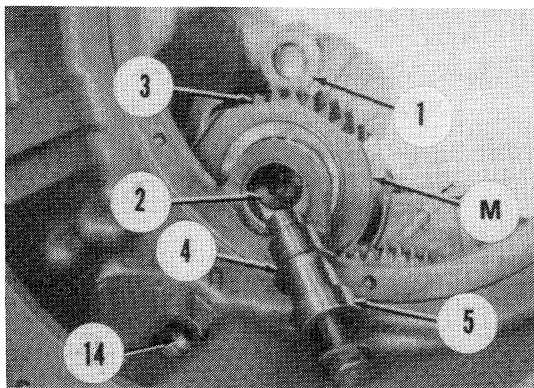

Fig. 209—View of upper pto idler gear with Quad-Range planetary removed. Upper idler shaft (5) is removed during planetary removal procedure.
190. PTO IDLER GEARS. To remove pto idler gears, separate tractor between engine and clutch housing as outlined in paragraph 100. Remove clutch operating piston as outlined in paragraph 103 and remove Quad-Range planetary as outlined in paragraph 105. The upper idler gear shaft (5—Fig. 209) was removed during removal of planetary. Shift the sheet metal housing (M) and upper idler gear (3) to one side, then remove rear spacer washer (1) and bearings (2) from idler gear. To remove lower idler gear shaft (14), thread a M16 cap screw with a large washer into end of shaft. Use a suitable slide hammer puller to withdraw the shaft. Lift sheet metal housing with idler